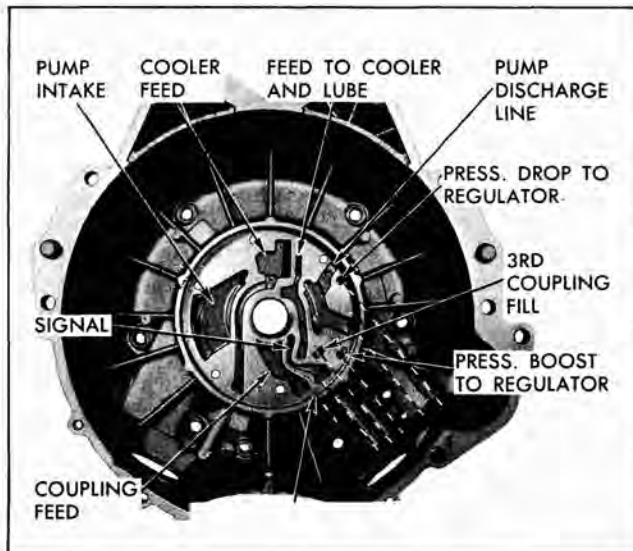

Fig. 70 Case Cover Oil Passages
1. Clean thoroughly and inspect all oil passages for interconnected passages, or restrictions. Use air gun and smoke (Fig. 70).